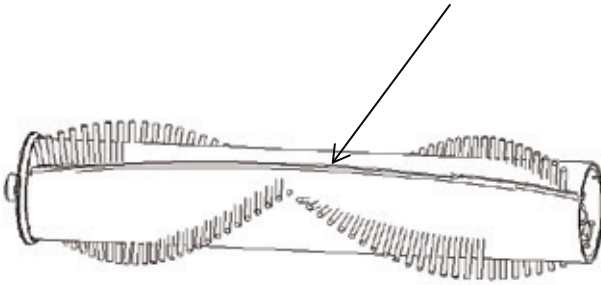

Fig. 6-6c
7) Scratch along the locating slot of roll brush with blade to cut and clean the hair. After that, reinstall the floor brush and close the roll brush cover. (Notes: Do not use the blade on the floor rolling brush itself to cut wound materials)(Fig. 6-6c)